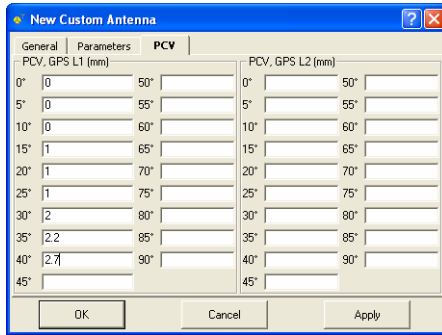

Figure 5-10. New Custom Antenna – Phase Center Variation Tab
- On the *PCV* tab of the *New Custom Antenna* dialog box, enter parameters for the antenna phase center variation (Figure 5-10).